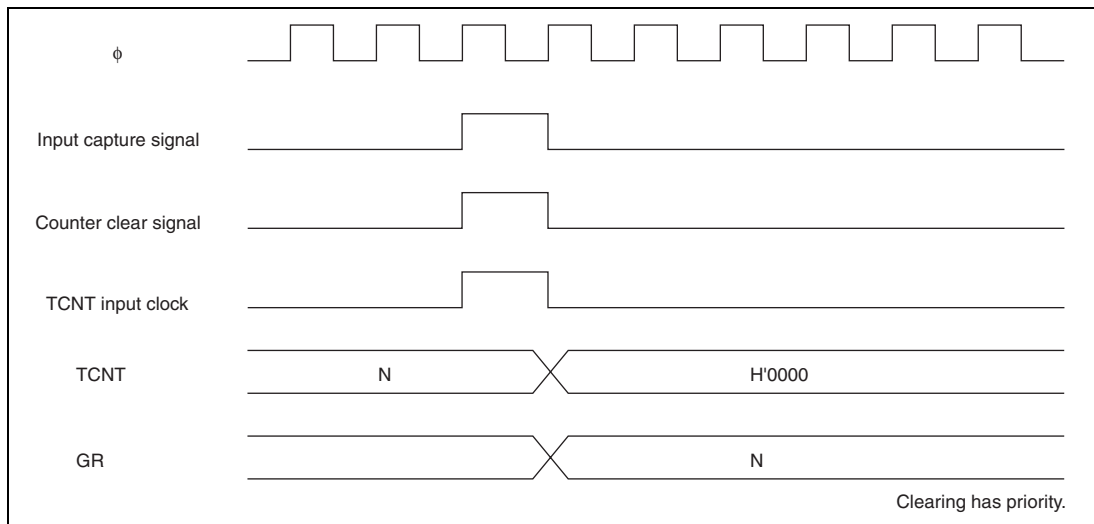

Figure 13.57 Contention between Count Clearing and Increment Operations by Input Capture
6. **Contention between Count Clearing and Increment Operations by Input Capture:** If an input capture and increment signals are simultaneously generated, count clearing by the input capture operation has priority without an increment operation. The TCNT contents before clearing counter are transferred to GR. Figure 13.57 shows the timing in this case.